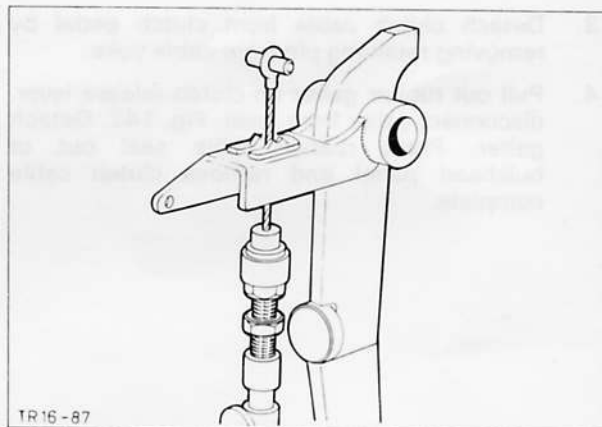

Fig. 139. Disconnect clutch cable
2. Slide pedal shaft along until clutch pedal can be pulled out of pedal bracket. Press retaining pin in clutch pedal out of the plastic yoke and remove. Disconnect clutch cable, Fig. 139.